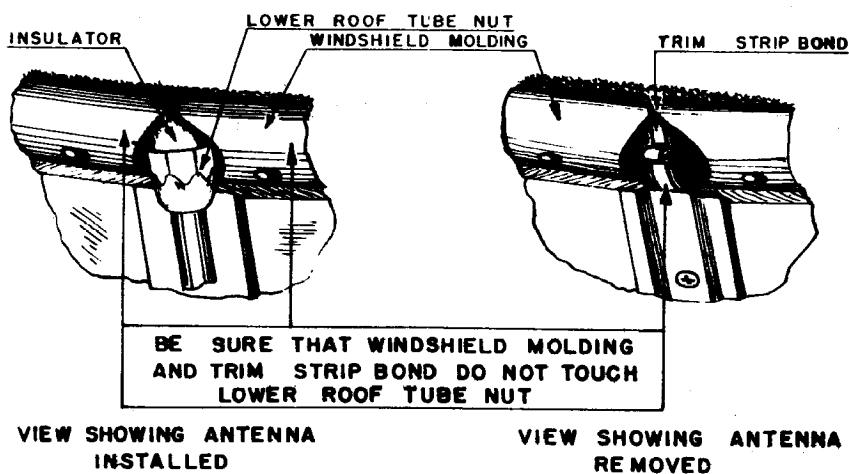

Fig.1.
1. Be sure the antenna lower roof tube nut does not touch the trim strip bond or the end of the windshield moulding. (Fig.1.) The trim strip bond can be easily bent away from the nut with a small screwdriver. If the end of the moulding touches the nut, remove the rear vision mirror, loosen the ends of the moulding, and with a half-round file, or a pair of large cutters, trim away the ends of the moulding. Allow approximately 1/8" clearance between the nut and the moulding. When the mirror is replaced, be sure the mirror bracket does not touch the antenna nut.